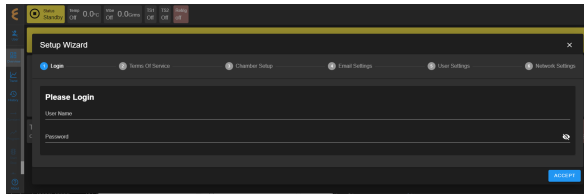

Figure 1.5: Login prompt in the Setup Wizard page.
9. The user interface of EWC appears in the Web browser as depicted in Figure 1.5.